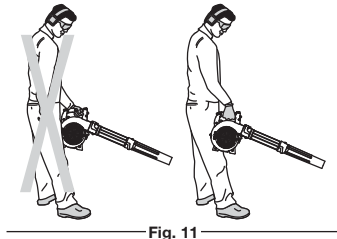

Fig. 11
- The unit in the right hand and on the right side of the body. Do not block the air intake which will affect the unit's performance (Fig. 11).